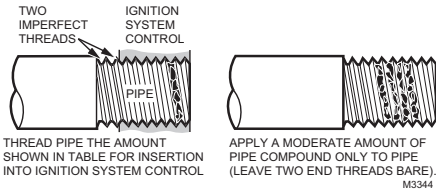

Fig. 5. Use a moderate amount of pipe compound.
- 2. Apply a moderate amount of good quality pipe compound to the pipe, leaving the two end threads bare, as shown in Fig. 5. For LP controls make sure to use an LP resistant pipe compound.